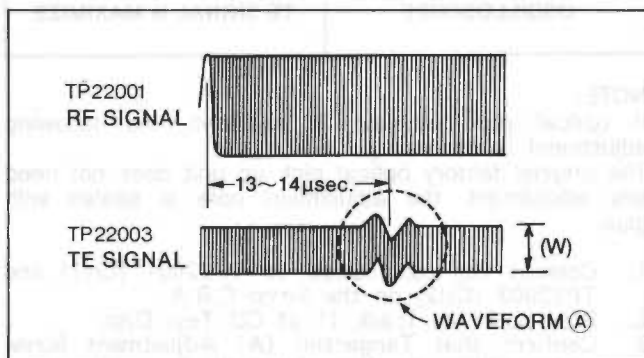

Fig. E15
- Confirm that Waveform (A) becomes as shown in Fig. E15.
- Set the Tracking ON/OFF switch of Servo Gain Fixture to "OFF" from "ON". Then adjust the Grating Hole so that the width (W) is maximize as shown in Fig. E15.
- Set the Tracking ON/OFF switch of Servo Gain Fixture to "ON" again. Then confirm that waveform (A) becomes as shown in Fig. E15.
- Adjust VR22302 (R-ADJ) on the Servo C.B.A. and Tangential (B) Adjustment Screw alternately so that the width (A) of RF Signal is maximized.
- Set the Tracking ON/OFF switch of Servo Gain Fixture to "OFF". Then adjust the Shaft Bearing (B) Adjustment Screw so that the TE signal of TP22003 becomes maximum as shown in Fig. E15.